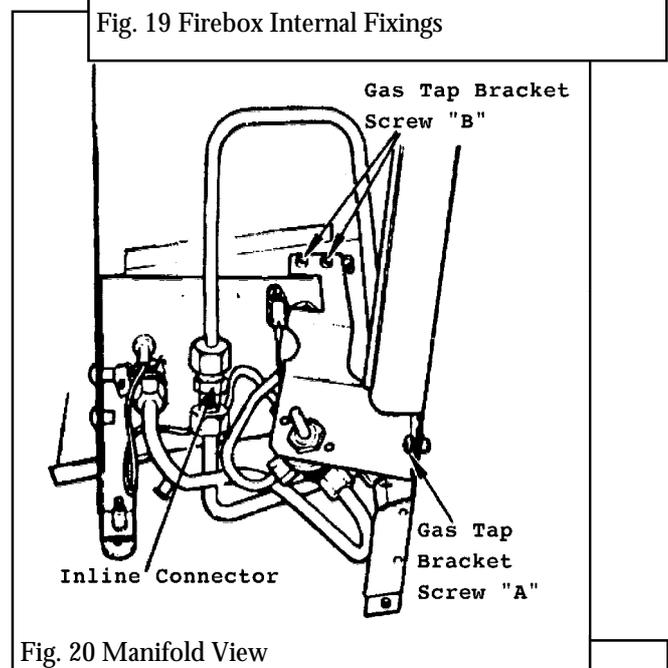

Fig. 20 Manifold View
- 16.9.4 Remove the gas tap bracket by unscrewing one screw, attaching it to the back panel and two screws attaching it to the bulkhead panel - see Fig.20 screws 'A' and 'B'
- 16.9.6 Disconnect the thermocouple and flue switch wires from the gas tap interrupter block (Fig. 20 a).
**16.13.4** Disconnect the inlet pipe from the lower joint of the in line connector - see figure 20.
**16.13.10** Remove the screw securing the gas tap bracket to the appliance back panel - see figure 20 screw "A".